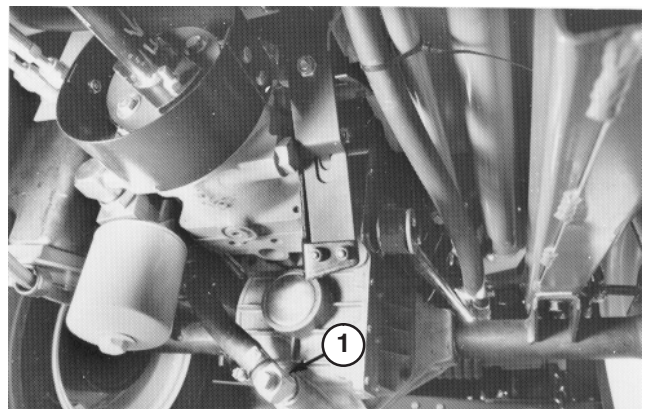
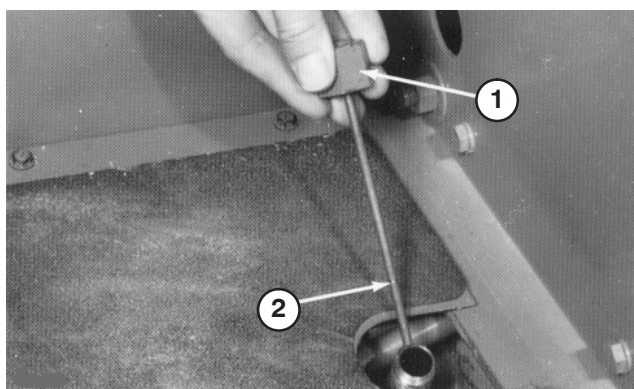

Figure 73
Figure 74
4. Remove drain plug from fitting between axle housing and oil filter and allow fluid to flow into drain pan (Fig. 73).
6. Install drain plug in fitting between axle housing and filter (Fig. 73).
7. Remove dipstick from axle filler tube (Fig. 74) and fill axle to proper level with correct type of hydraulic fluid; refer to table above.
9. Leave machine set for two additional minutes, then remove dipstick and check fluid level in axle (Fig. 74). If level is low, add fluid until level matches groove in dipstick (Fig. 74). If level is too high, remove drain plug (Fig. 73) and drain fluid until level matches groove in dipstick.